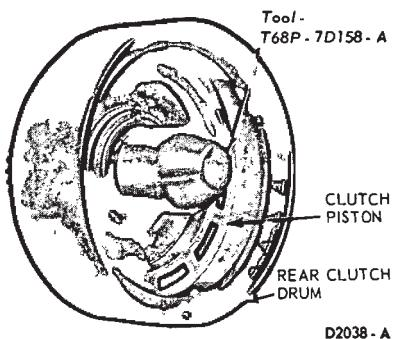

FIG. 31—Installing Rear Clutch Piston
9. To install the piston in the clutch drum, lubricate the piston seals and tools (Fig. 31) with clean transmission fluid.